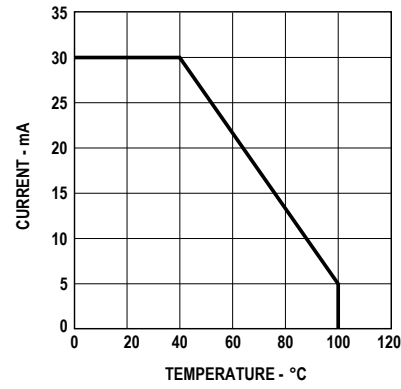

Figure 4. Maximum forward current vs. ambient temperature. Derated based on  $T_{j,MAX} = 110^{\circ}C$ ,  $R(\theta)_{JA} = 500^{\circ}C/W$ .
1. Derate linearly as shown in Figure 4.